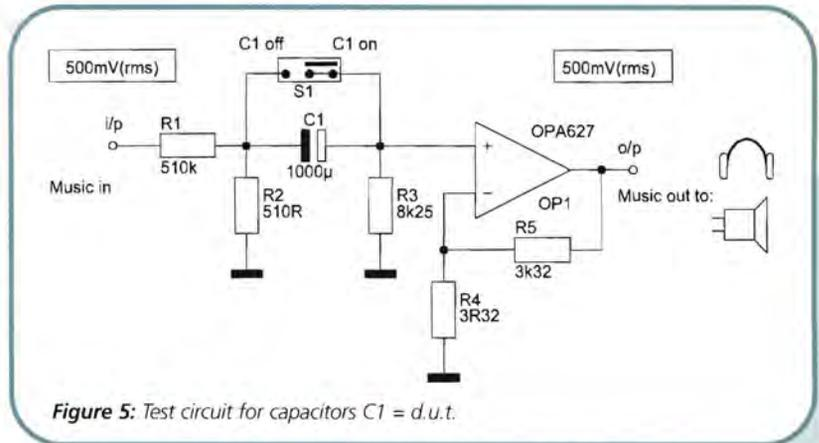

Figure 5: Test circuit for capacitors C1 = d.u.t.
The high value of the input capacitor C2 is essential to keep its low-frequency impedance as low as possible. If you have problems with electrolyte capacitors inside the amplification chain, I strongly recommend to read the respective debate in E&WW in 1988, after Self published his pre-pre-amp article in 12-1987. I only did hear tiny differences between very expensive, cheaper and bridged capacitors that I tested with the circuit of Figure 5. Finally, I chose one from Panasonic (FC). To exactly hit the RIAA transfer, the value of C7 (2 μ 2) should not be changed. With that, the deviation of the pre-amp's RIAA transfer is of a maximum $\pm 0.1dB$.